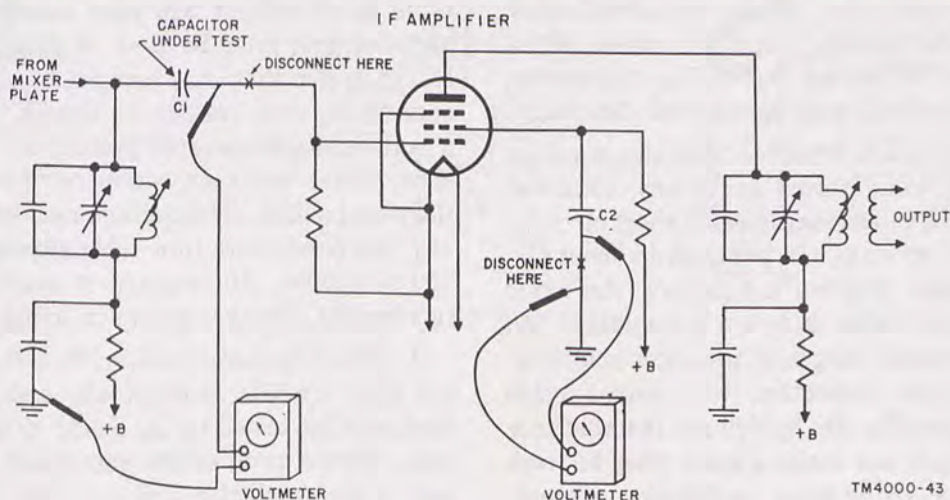

Figure 42. Method for checking capacitors with a voltmeter.
- (1) To determine whether a capacitor is leaky or shorted, disconnect it from the circuit and test it with an ohmmeter. There are occasions when a leak will not show up unless the capacitor is subjected to the voltage appearing in the set; therefore the ohmmeter test will not indicate a defect. Disconnect coupling capacitor C1 in figure 42 at the low-voltage side. Connect the voltmeter between the free end of the capacitor and ground and turn the set on. If there is a short or leak in C1, part of the dc voltage applied to the other side of C1 will be indicated on the voltmeter.
- (2) A suspected bypass or filter capacitor (C2, fig. 42) should be disconnected at the ground side. Connect the voltmeter between the low side of C2 and ground. With the set turned on, part or all of the screen-grid voltage will be indi-
- (3) Whenever a capacitor, such as C1 or C2 in figure 42, is suspected of being open, the quickest way to check it is to shunt a good capacitor across it.
- (4) Capacitors of comparatively large values, such as electrolytics, can be tested for open circuits with an ohmmeter. Be sure to connect the positive lead of the meter to the positive lead of the capacitor. Connect the ohmmeter terminals across the capacitor terminals and watch the meter needle. If the capacitor is good, the needle will rise rapidly as the capacitor is charging, and will fall slowly as the capacitor becomes charged.
- (5) Another way of testing is to connect the capacitor across a source of dc power where the voltage is equal to, or less than, the dc voltage rating of the capacitor. If the capacitor is polarized, be sure to connect the plus side to the plus side of the power source. After a few seconds of contact, remove the capacitor and bring its terminals close together. If a spark results, the capacitor is not completely open.
- (6) Capacitors may change in value, thereby producing abnormal results. To check the capacitor accurately, it is